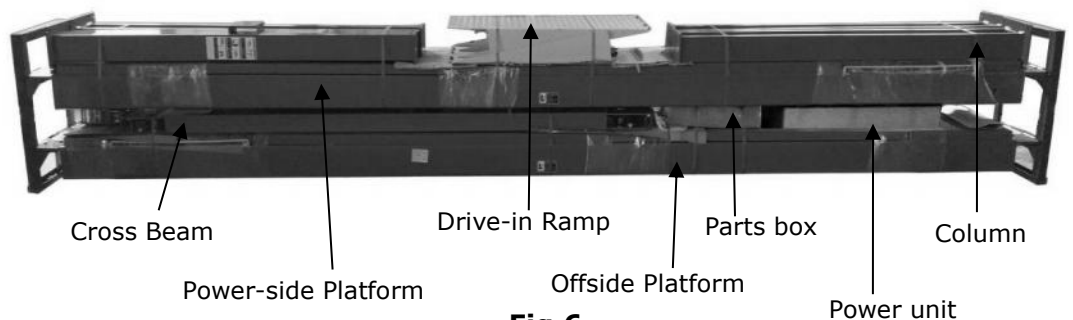

Fig.6
3. Open the outer packing ,check all the parts according to the parts list (See Fig. 6).